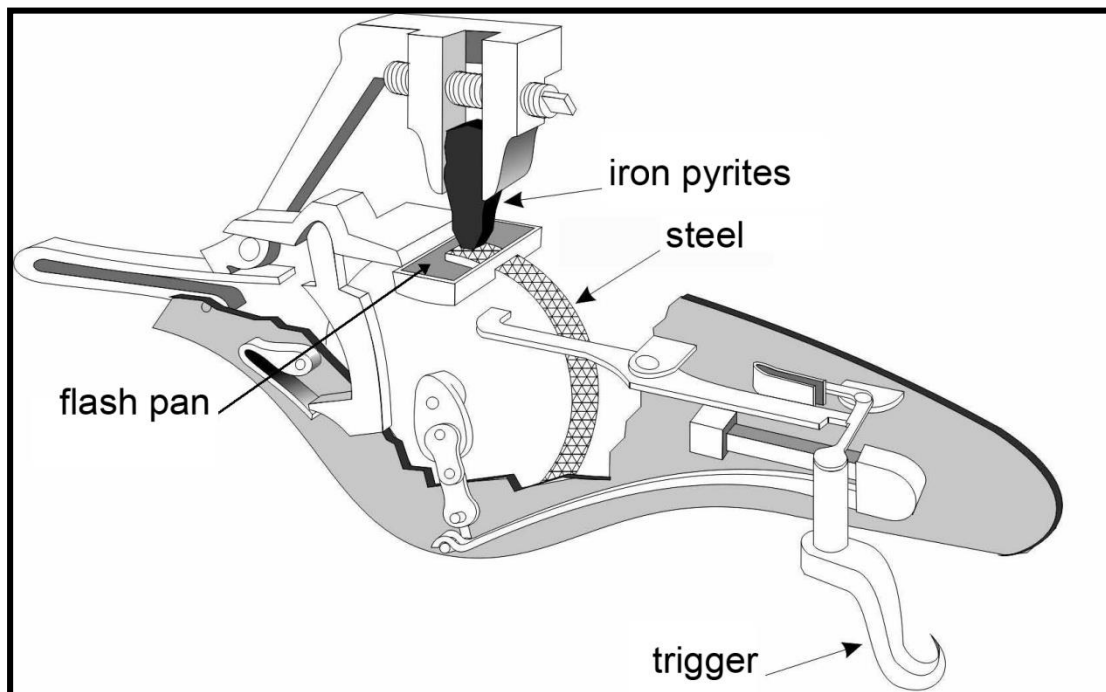
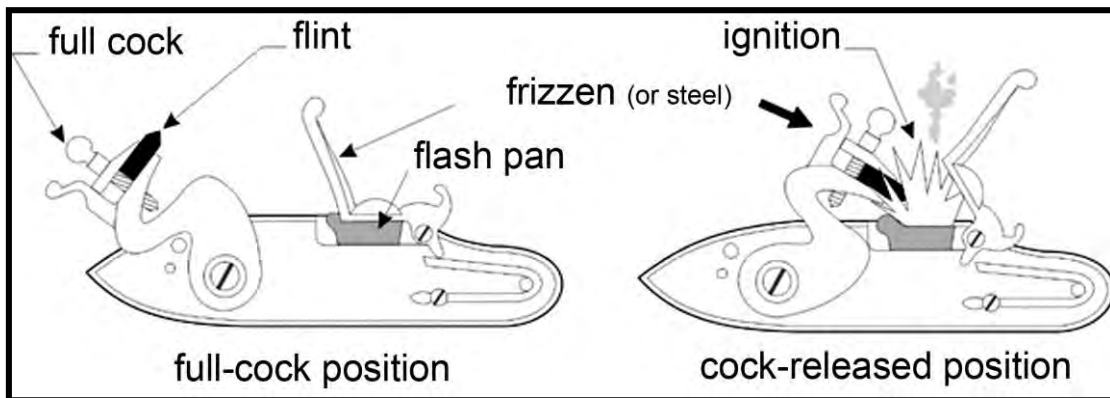

Figure 3. Wheel Lock Mechanism
Figure 4. Flintlock Mechanism
Two improved firing systems were developed in the 1600s. These were the wheel lock (Figure 3) and the flintlock (Figure 4). The wheel lock worked much like a modern cigarette lighter. The spring was wound up with a key. The wheel lock mechanisms were complex and expensive to make. Also, winding was slow and the spring often failed.
1. The flintlock (Figure 4) has an ignition mechanism similar to the wheel lock. It produced its spark by striking a flint against steel. Since it weighed less and was simpler and cheaper to make, it soon became more popular.